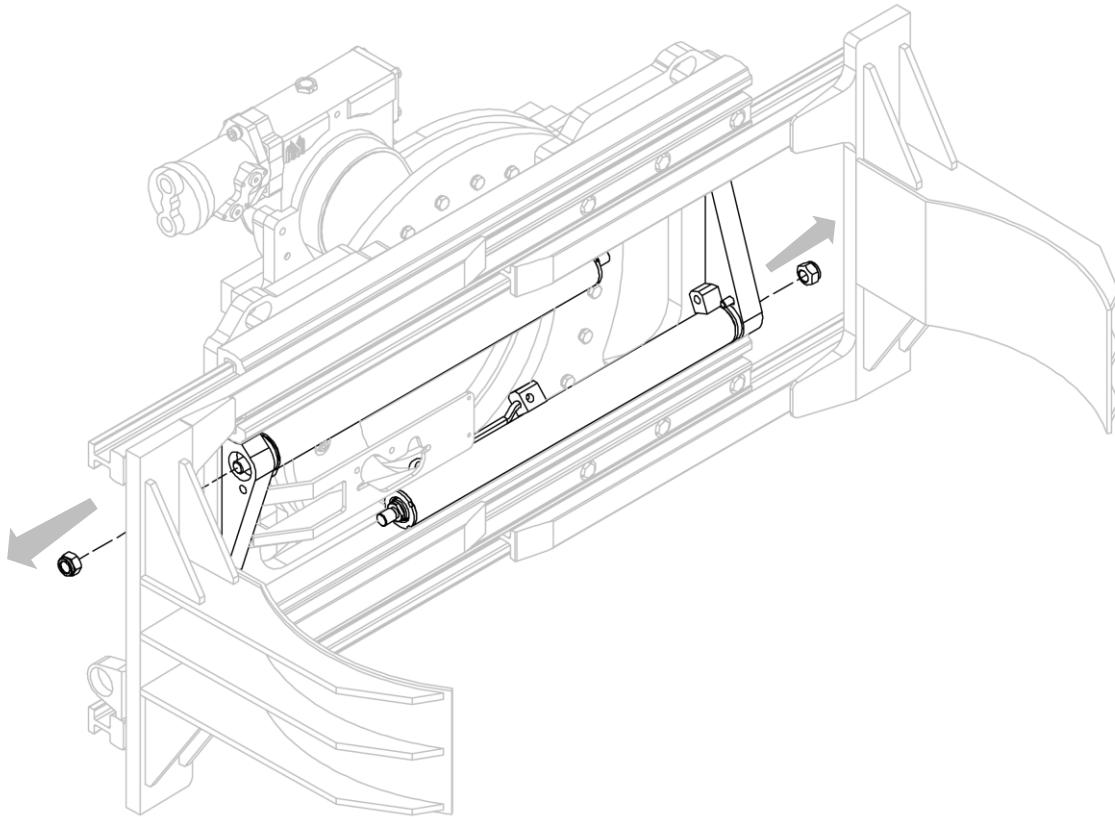

Figure 37
7. Remove, one at a time, the nuts that secure the cylinders to the equipment assembly and remove the cylinders themselves, taking care not to damage them (see *Figure 37*).